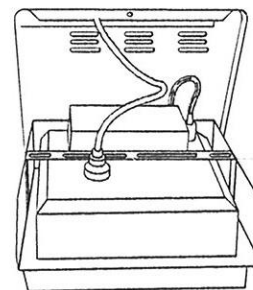

Fig.6
4. Attach the temperature recorder (MTR-G85) to the recorder fixture (MPR-S7: optional component) by following the instruction shown in the procedure enclosed with the fixture. (Fig.6)